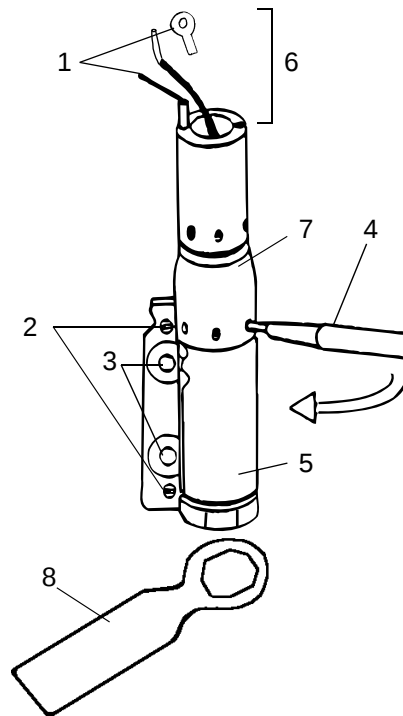

Figure 1 :
- 6 - Unfasten the cannon-holder screws (see Figure 1).
WARNING: Respect the rotation direction indicate on the figure 1 otherwise to unscrew the cannon nut.